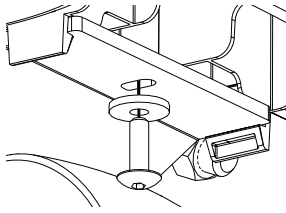

Figure 10
- 4. Secure it using an M5 x 16 mm BHCS and a 5 mm flat washer (Figure 10). Fully tighten using a short 3 mm ball end hex wrench.